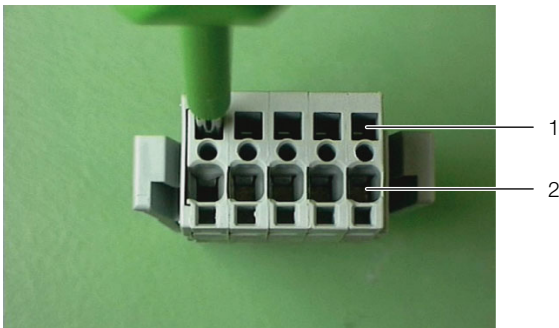

Fig. 72: Connector – rear
- Insert a suitable screwdriver (blade size 3.5 x 0.5 mm) into an activation opening (fig. 72, item 1) and open the corresponding terminal connection of the conductor entry (fig. 72, item 2).